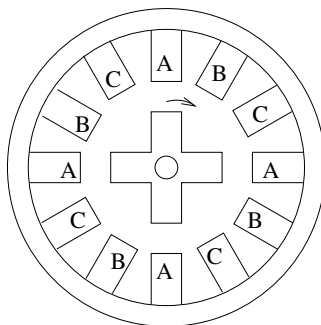

Figure 5.21: Variable reluctance stepper motor.
*Variable reluctance stepper motors* do not have a permanent magnet as rotor, but use an iron core with many teeth instead, see Figure 5.21. They have three to five stator phases (which are replicated several times) and a rotor with at least 4 teeth. When phase *A* is turned on, it attracts the tooth nearest to it, and the rotor will turn to align this tooth with the coil. Turning on phase *B* again turns the rotor clockwise to align the tooth nearest to this coil, and so on. If you increase the number of teeth, this will increase the number of steps.